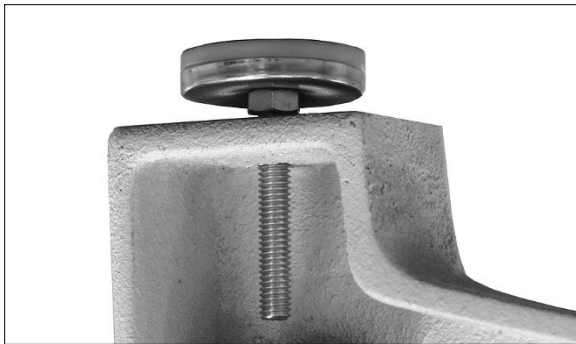

Figure 5
6. Install the four levelers (Figure 5). These can be adjusted later.
8. Rotate the levelers (Figure 5) as needed to establish level for the lathe. Tighten the hex nut on each leveler against the leg casting.